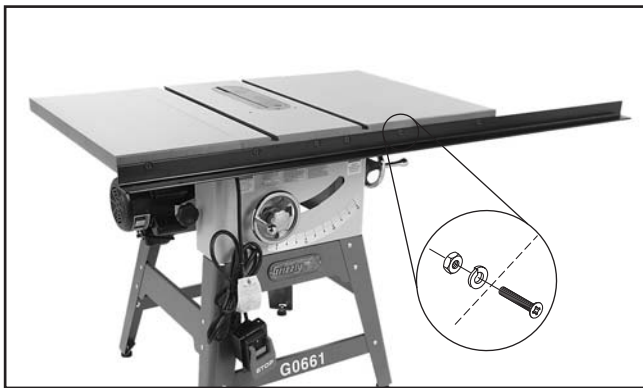

Figure 17. Front rail installed on saw.
13. Install the front rail with six M8-1.25 x 25 flat head screws, 8mm lock washers, and M8-1.25 hex nuts (**Figure 17**).